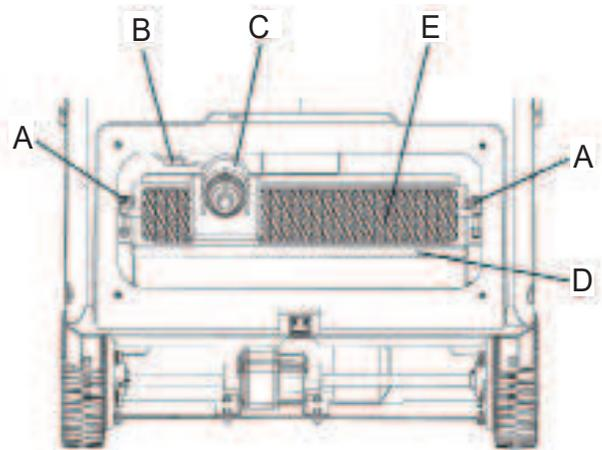
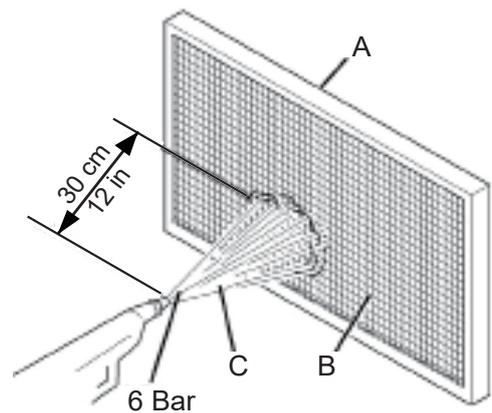

Figure9
Figure10
- 1) Drive the machine on a level floor and release the pedal (2) and stop the machine.
- 2) Turn the ignition key (71) to "0".
- 3) Disengage the hook (29) by pulling its lower end.
- 4) Remove the hopper (28) by using the handle (30) and by using hand and by disengaging it from the inner guides.
- 5) Unscrew the knobs (37) and remove the filter compartment cover (36).
- 6) Loosen the knobs (A, Fig.9).
- 7) Disconnect the connector (B, Fig.9) from the filter shaker motor (C).
- 8) Remove the dust filter fastening frame (D, Fig.9).
- 9) Remove the dust filter (E, Fig. 9).
- 10) In an outdoor area, clean the filter by shaking it on a level and clean surface, tapping the side (A, Fig. 10) opposite to the wire gauze (B).
Complete the cleaning procedure by using compressed air (C, Fig. 10) at maximum 6 Bar, blowing only from the side of the wire gauze (B), at a minimum distance of 11.8 in (30 cm).
- 13) Clean the rubber gasket (A, Fig.10) of the cover (36) and check it for integrity and efficiency; if necessary replace it.
- Install the filter (E, Fig. 9) with the wire gauze (B, Fig. 10) facing upwards.